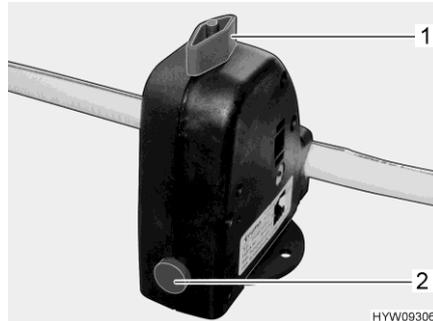

Fig. 149 Safety/drainage valve (Truma)
- Close the safety/drainage valve (Truma). Turn the knob (Fig. 149,1) perpendicular to the safety/drainage valve and push the push button (Fig. 149,2) in.